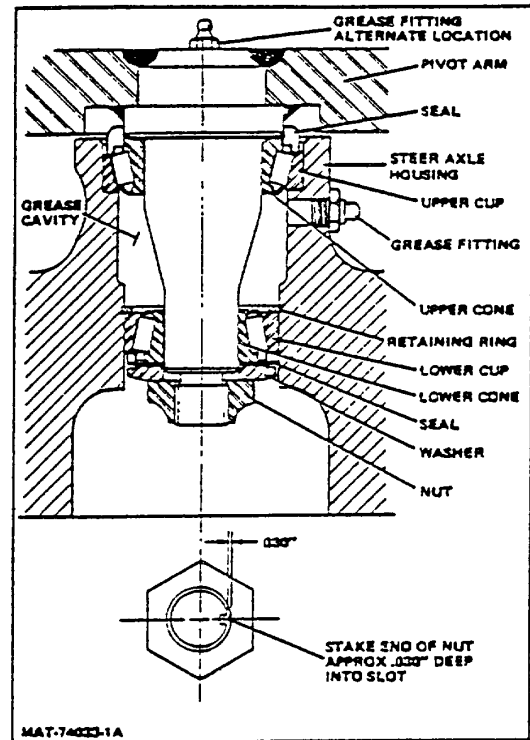

Figure 4. Pivot Arm Installation (Type II and III Steer Axles)
3. Seat upper seal (Fig. 4) on pivot arm firmly. Fill seal with specified grease.
13. After proper rolling torque is obtained, stake end of nut approximately .030" deep into slot (Fig. 4).